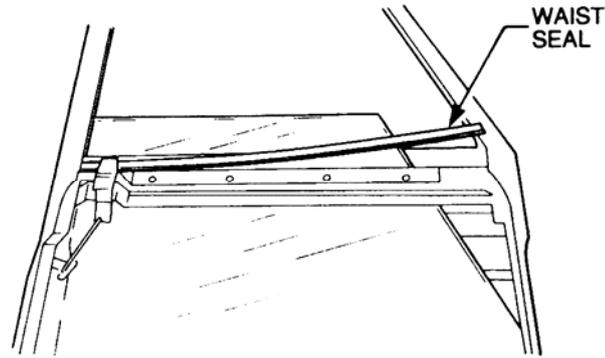

Figure 17 Window Glass Removal
- w. Remove the inner and outer waist seals (refer Figure 17).